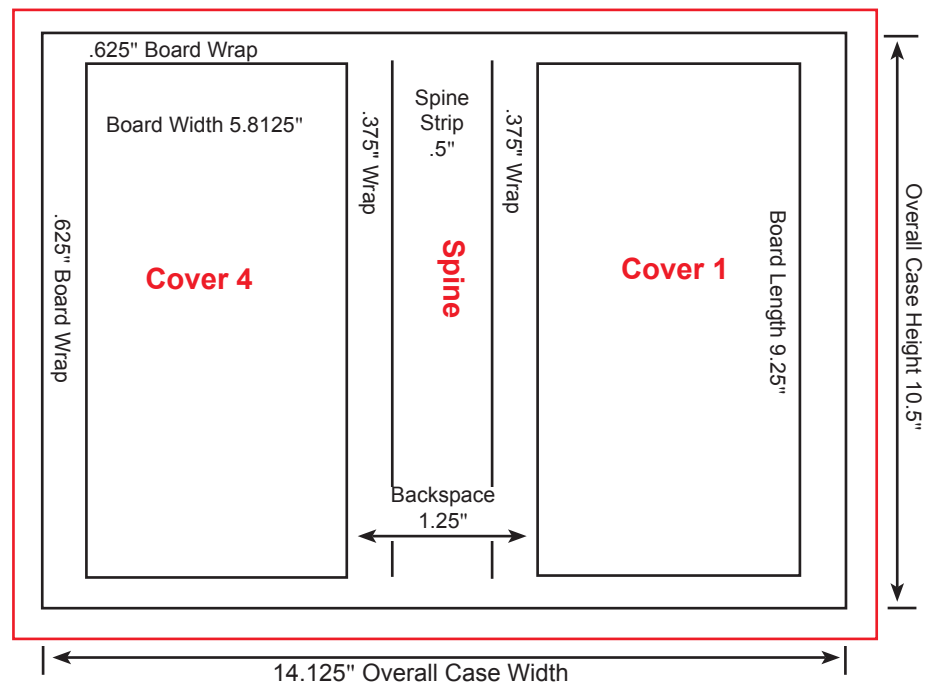

Figure 5
- ❑ File must be created in a spread format. Contact your CSR for a specifically measured layout to setup a printed case file. (See Figure 5)
- ❑ PDF Trim Box height must be 1/4" larger than text trim page height with including allowances for board wraps. The trim width will include allowances for board wraps, hinges and spine backspace. Contact your CSR for a specifically measured layout. (See Figure 5)
- ❑ File spreads must be setup in Landscape. (See Figure 5)
- ❑ Media box must be set at least 1/4" larger than the trim box. (See Figure 5)